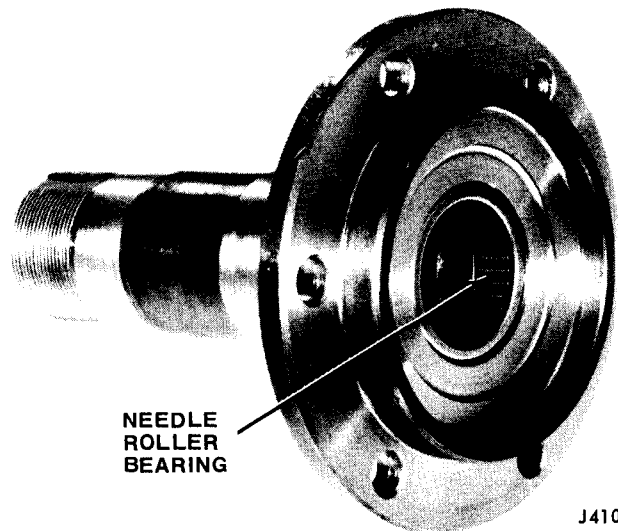

Fig. 10-14 Spindle Bearing
**NOTE:** Front axle spindles are equipped with a needle roller bearing located at the rear spindle flange (fig. 10-14).
(1) Mount spindle in vise. Use caution and protect all machined surfaces on spindle.
(2) Remove needle bearing using internal-type puller.
(3) Clean area of dirt and foreign matter.
(4) Install needle bearing and pack needle bearing with grease.